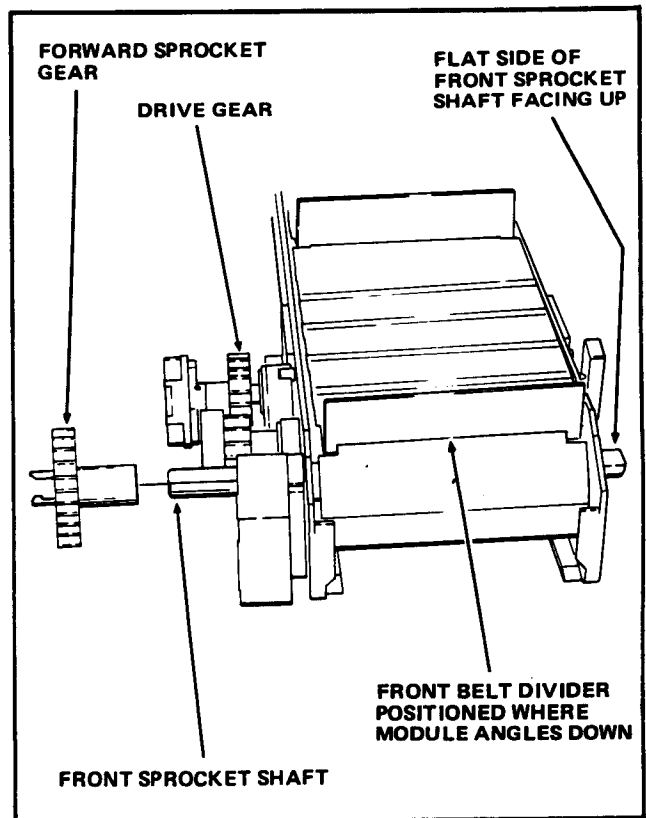

FIGURE 14
23. Rotate the Belt Forward until the Flat side of the Front Sprocket Shaft faces straight up and a Belt Divider is positioned as shown in Figure 14.
24. Rotate the Drive Gear in either direction until it locks. See Figure 14.
25. Slide the Forward Sprocket Gear onto the Front Sprocket Shaft. It may be necessary to rotate the Gear until it will slide on; the Gear will go on in only one position. DO NOT rotate the Front Sprocket Shaft while installing the Forward Sprocket Gear. See Figure 14.